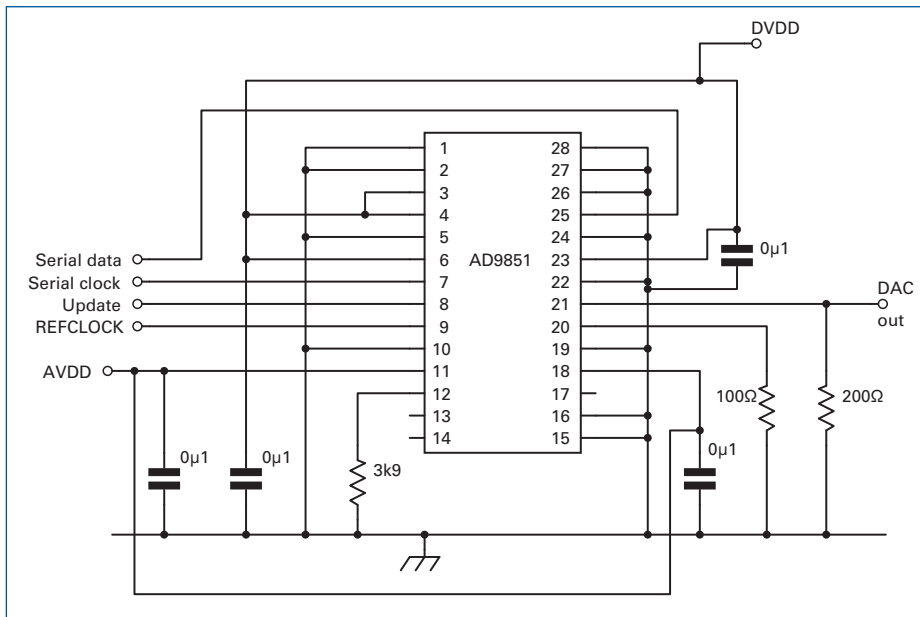
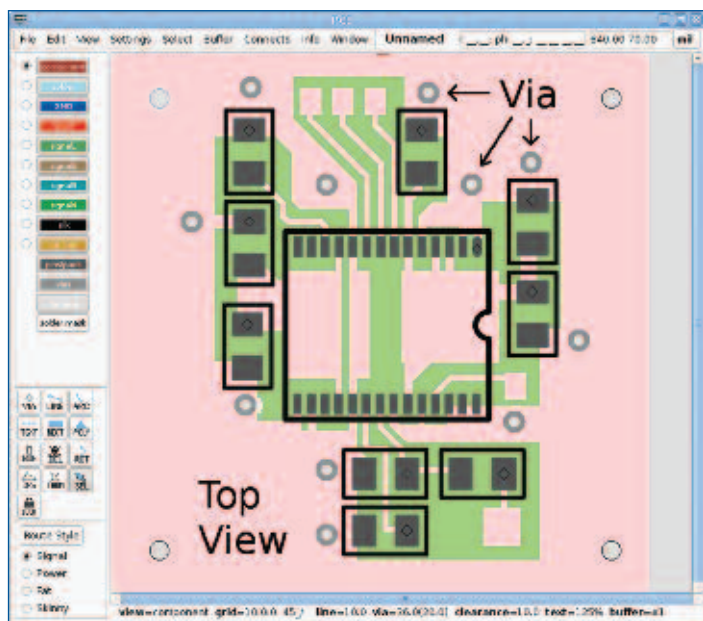

FIGURE 3: Circuit diagram of the AD9851 direct digital synthesiser project.
FIGURE 4: Overlay of the AD9851 DDS board.
**AD9851 DDS.** Our second project is a DDS synthesiser that will be used as a signal generator. The AD9851 [3] comes in a 28-pin SSOP package that has a pin spacing of 0.65mm. The PCB uses a double sided layout, but the bottom layer is only used as a continuous ground plane so that no etching of this layer is required. The schematic is shown in **Figure 3**, the layout is shown in **Figure 4**. The board was made using the toner transfer method [4]. Although I felt that I was pushing the boundaries of what was possible using a ten year old laser printer and cheap glossy photo paper, the PCB turned out better than expected. **Photo 4** shows the etched PCB.
PHOTO 4: The etched DDS PCB is a respectable copy of Figure 4.
PHOTO 5: Surface mount makes for a very neat finished board. Note that this is the opposite way up from Figure 4 and Photo 4.